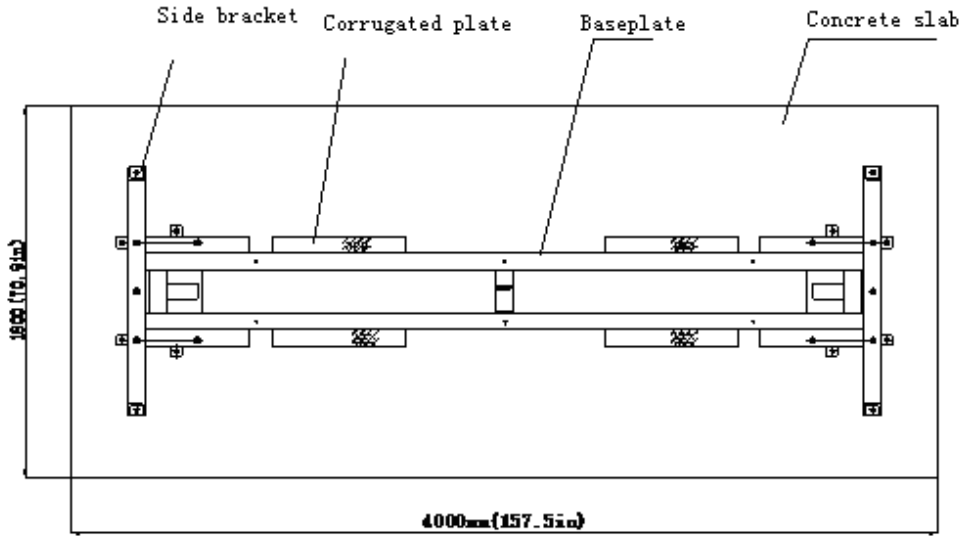

Fig.7b
**TLT235SBA (E) Model:** The Base plate and four pieces corrugated steel plate are connected by fasteners.(as shown in Fig.7b)